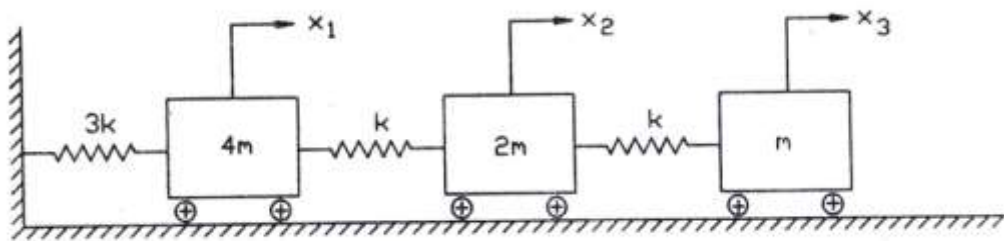

Fig.2
- b) For the three degrees of freedom system shown in Fig.2, obtain the three natural frequencies.